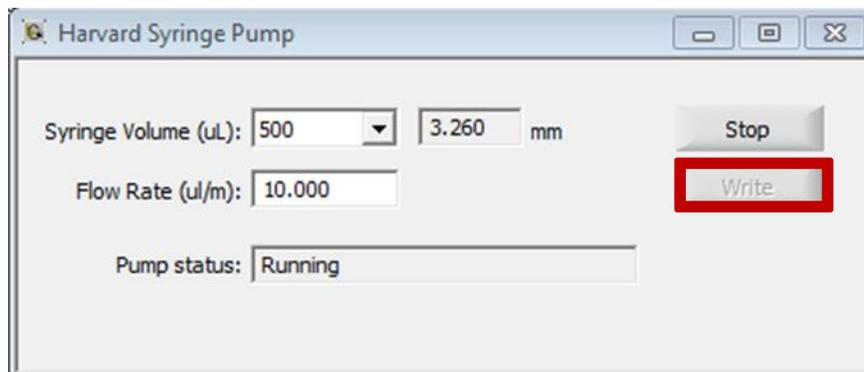

Figure 1.13 – Harvard Syringe Pump window
- The AI-MS software will operate the syringe pump at 30 $\mu\text{L}/\text{min}$ for a short period of time in order to purge the solvent transfer lines. However, there are instances where the syringe pump will need to be operated at this flow rate for a longer time period to successfully purge the lines of air. In this event, click the “Instrument” tab and select “Harvard Pump” from the drop-down menu. A syringe pump window will open in which the flow rate of the pump can be changed back to 30 $\mu\text{L}/\text{min}$. If a new flow rate is inputted, **the “Write” button must be pressed to communicate the new flow rate to the instrument** (Figure 1.13).